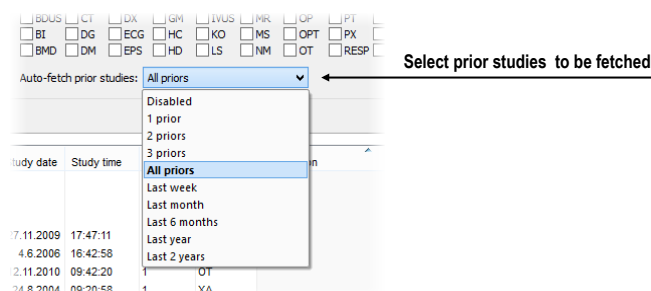

Figure 121 – Specifying which prior studies should be received
4. Set the parameters of the prior studies filter (see Figure 121), which defines the group of automatically added prior studies of the selected study in the worklist.